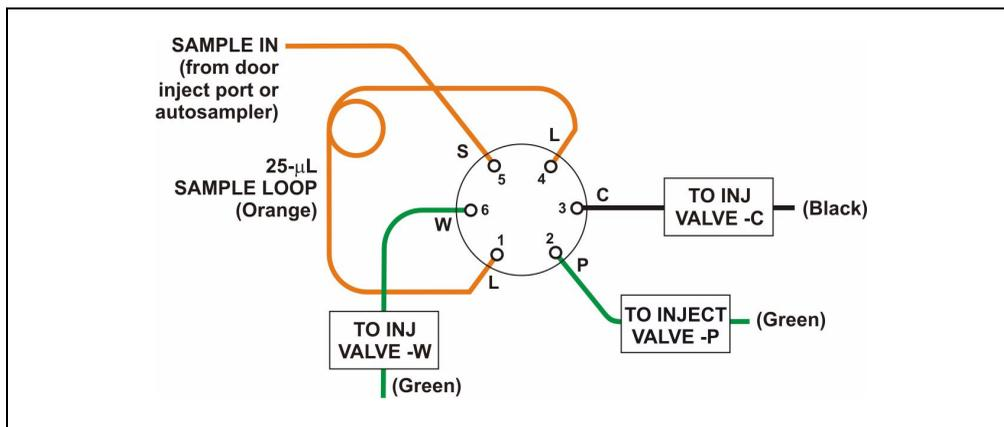

Figure 2-14. Injection Valve Plumbing
Figure 2-14 shows the injection valve connections. The injection valve is plumbed at the factory with all tubing and fittings for connection to the pump, injection port, column, and waste. A 25- $\mu$ L PEEK sample loop (P/N 042857) is installed between ports L (1) and L (4). Dionex offers